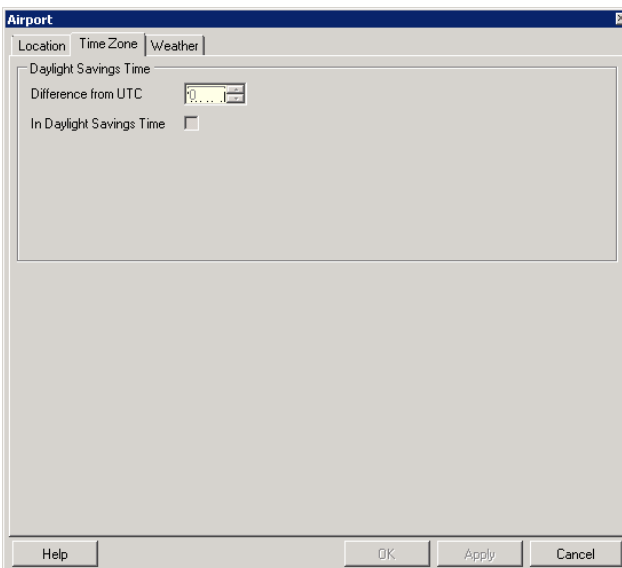

Figure 5-13 Airport Dialog Box – Time Zone Tab
- The *Time Zone* tab (Figure 5-13) is read-only.